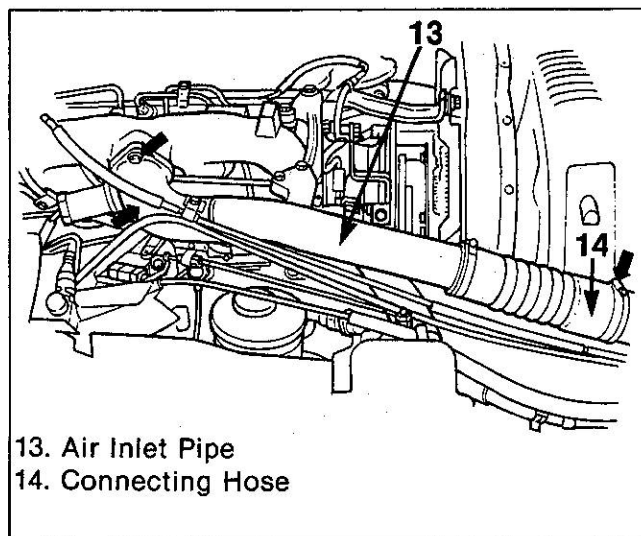
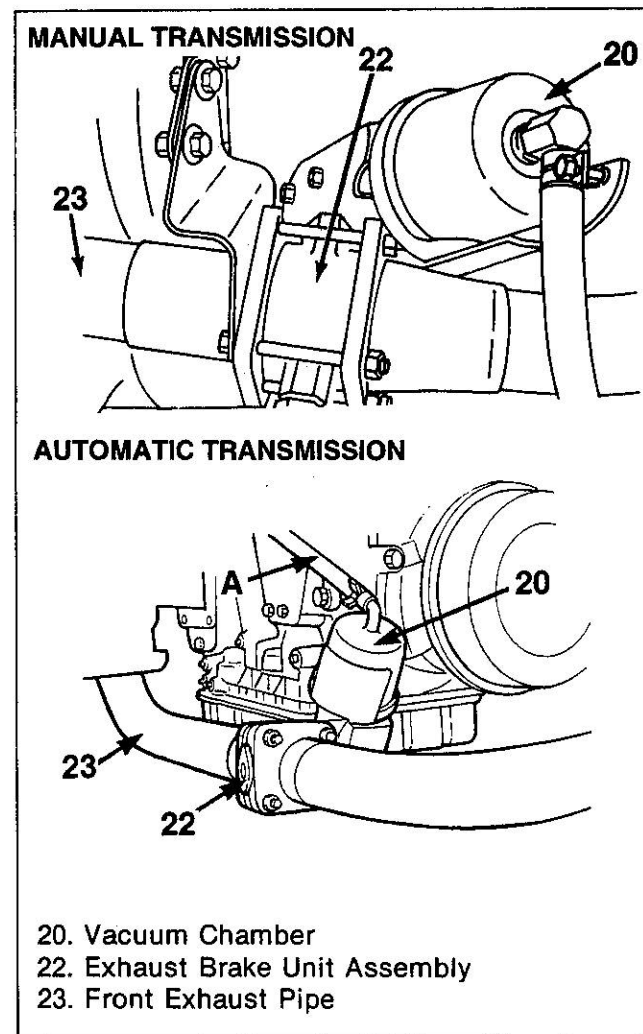

Figure 5. Intake Manifold Pipe Attachment
Figure 9. Exhaust Brake Installed
8. Air inlet pipe (13) with connecting hose (14) from the intake manifold and the charge air cooler (12) (figure 5).
9. Charge air cooler assembly (12) from the radiator.
- 25. Exhaust brake unit assembly (22) (figure 9).
25. Front exhaust pipe (23) and exhaust brake unit assembly (22) (figures 9 and 10).
26. Charge air cooler assembly (12) to the radiator.
27. New gasket and the air inlet pipe (13) with connecting hose (14) (figure 5).